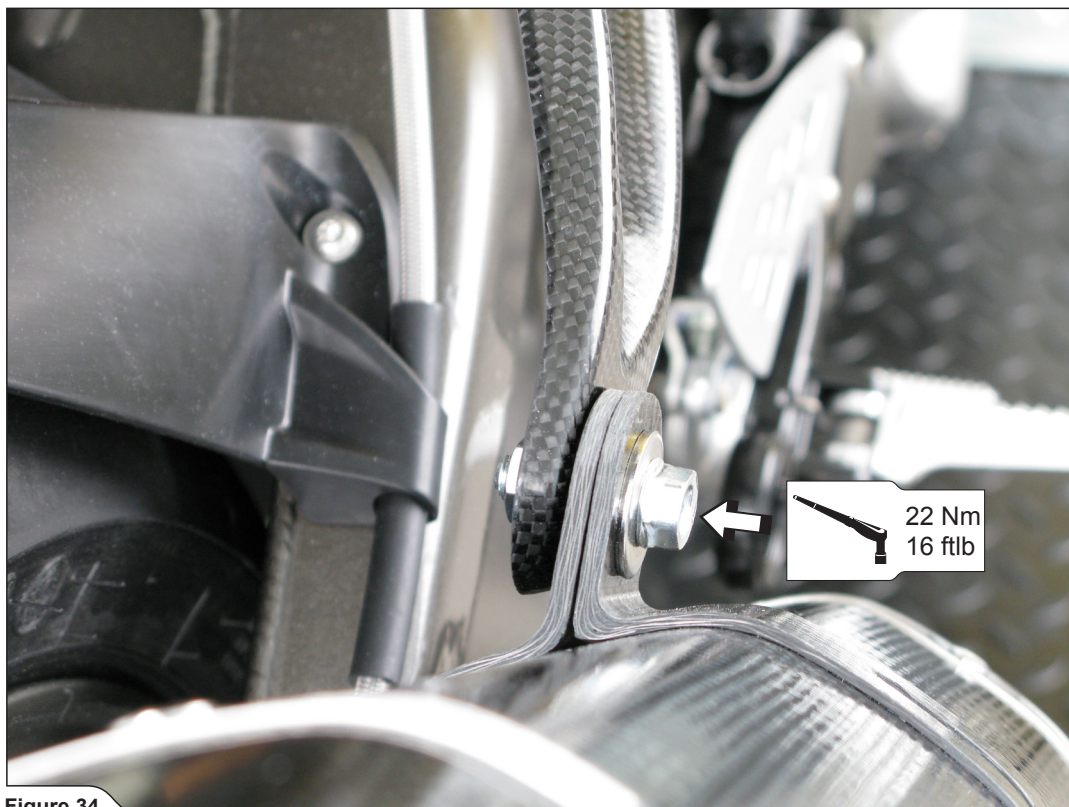

Figure 34
17. **For optional carbon-fiber muffler bracket only:** align the muffler in respect to the motorcycle and tighten the muffler clamp using Akrapovič bolt, washers and nut as shown (**Figure 34**).